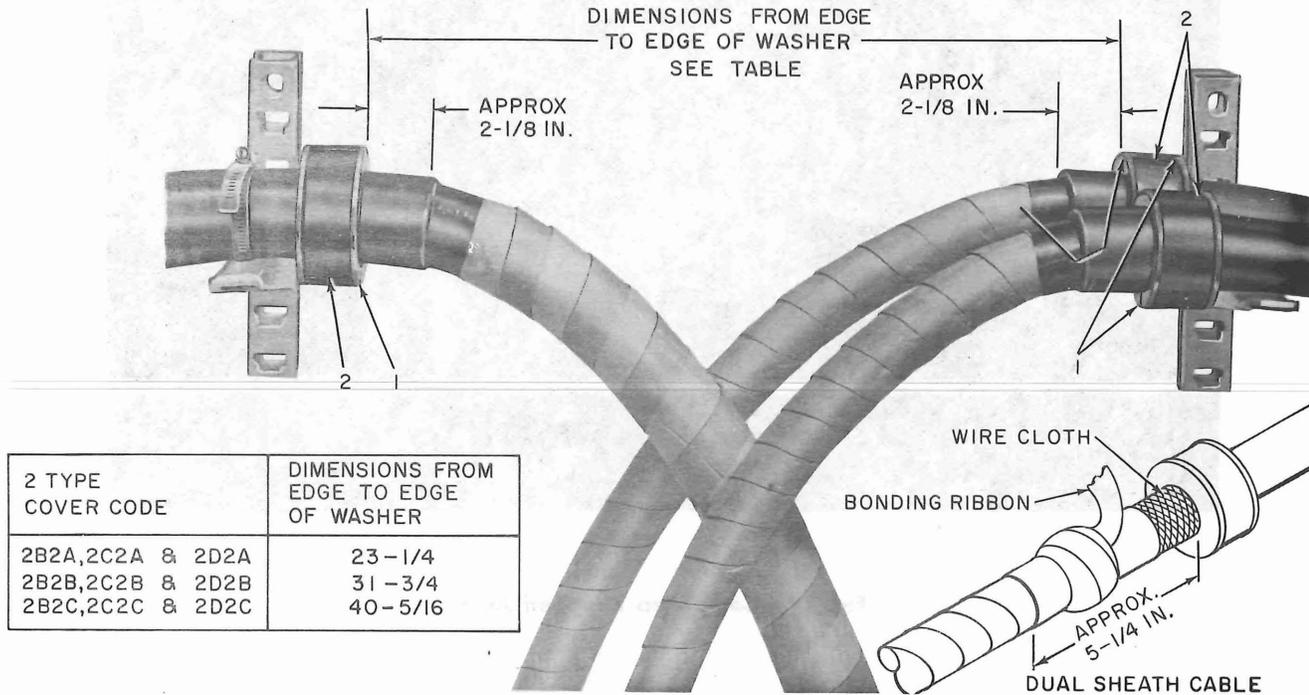

Fig. 20—Installation of B Sealing Tape Collars
3.04 Install B sealing tape collars on single and dual jacket cables as outlined in Fig. 20.
1. Install B sealing tape collars on cable sheaths as outlined in Fig. 20.